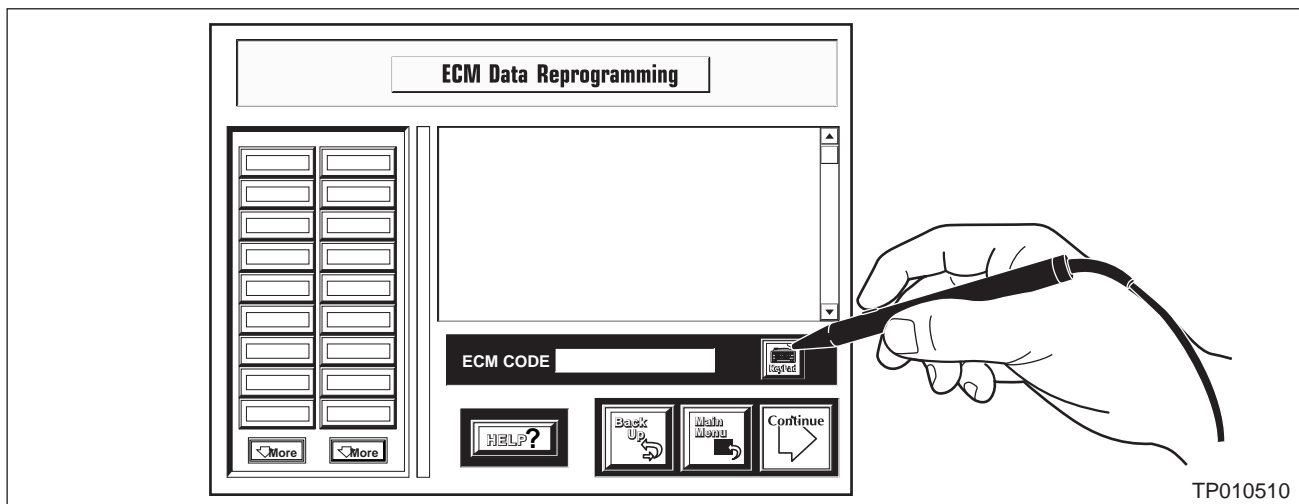

Figure 1
1. Click on the **Keypad** button (see Figure 1).